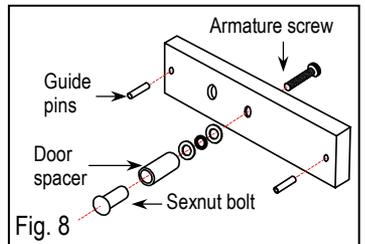

Fig. 8
8. Tighten the armature screw enough so that the armature plate can withstand a break-in attempt, but loose enough so that the armature plate can pivot slightly. Make sure the anti-spin guide pins are in the two guide pin holes (see Fig. 8).